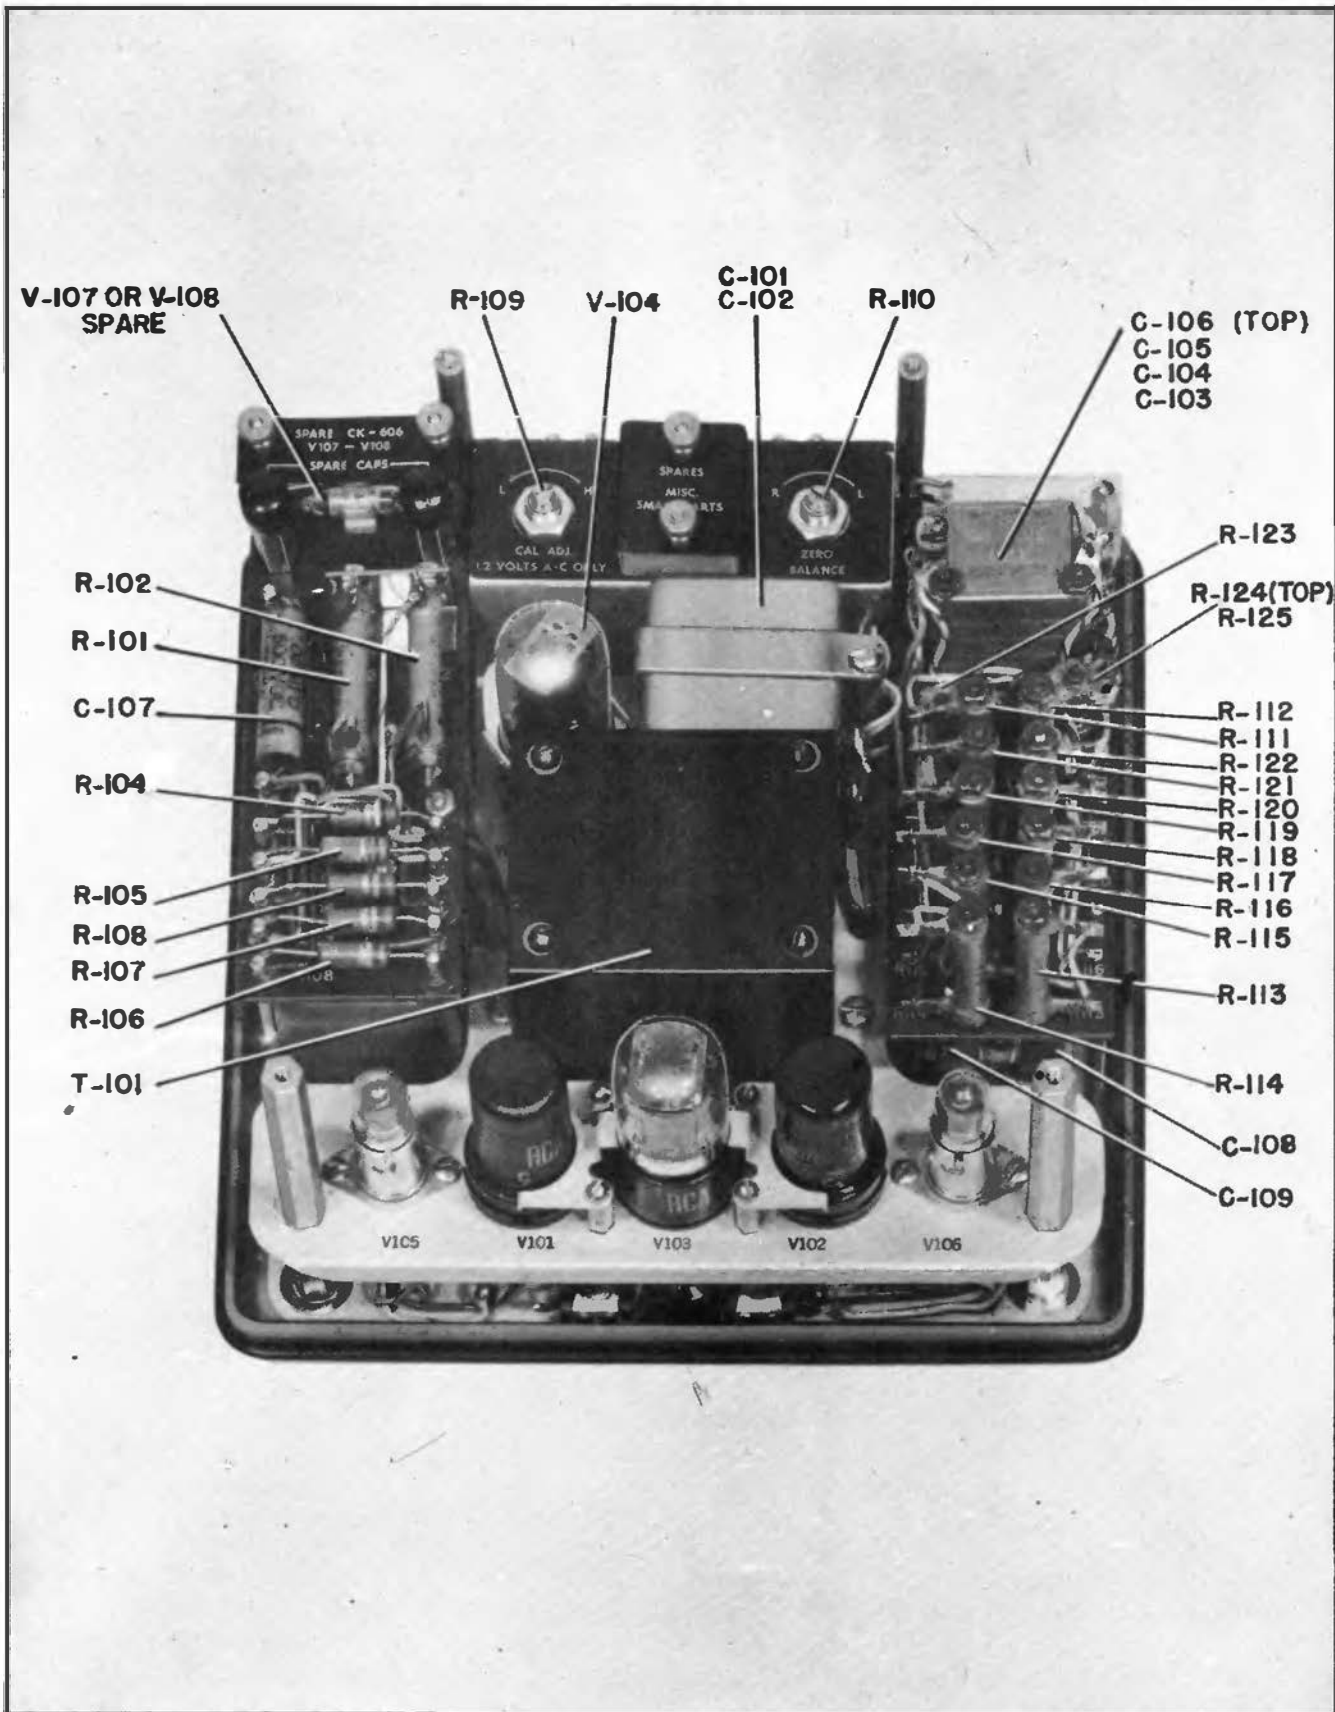

Figure 5-1. Voltmeter TS-375/U, Internal Rear Oblique View
(1) Turn on and warm up for one minute. Set to the 3-volt d-c range. Short circuit the input terminals. Set the panel zero corrector to approximately its center position.
(2) Locate the coarse zero adjuster (R-110, see figure 5-1) on the chassis. Using a screwdriver or fingernail, adjust to obtain an instrument reading within approximately 10 percent of its zero position. The indicating instrument will respond rather slowly to motion of the coarse zero adjuster and some time may be required for the adjusting procedure.
(3) Make a final zero adjustment with the panel zero adjuster.
(1) Warm up for at least five minutes. Set to the 1.2-volt a-c range. Carefully adjust zero with the a-c input terminals short circuited. Connect the input to the one-volt standard voltage source.
(2) Locate the calibration adjuster (R-109) on the chassis (See figure 5-1). Set the adjuster until the indicating instrument indicates exactly one volt (the elongated scale division).
(3) Recheck the zero position, and repeat the adjustment if any noticeable shift has occurred.
(4) If it is necessary to replace V-107 or V-108, the spare type CK606 diode may be used (See figure 5-1). No matching is required between tubes for V-107 and V-108. The replacement tube when used in either position may not balance the other diode in contact potential until it is operated for 5 or 6 hours. However such unbalance as may be noted when using a new tube will be within the rotational limit of R-103 (See figure 5-1).